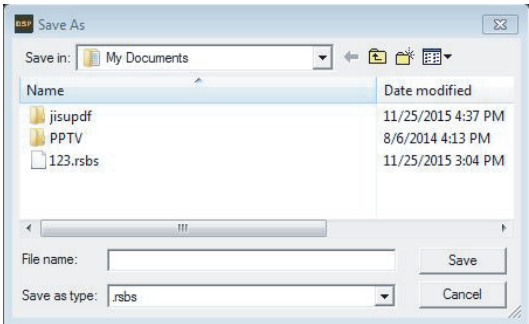

Figure 3.4.6
**Step 2:** Click "Save" will bring up the file after item Save As dialog window (Figure 3.4.6).